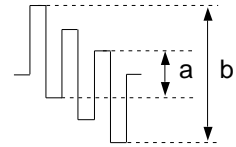

fig.6
4. Defined as  $V_{LIN} = b / a$  ; see fig.6